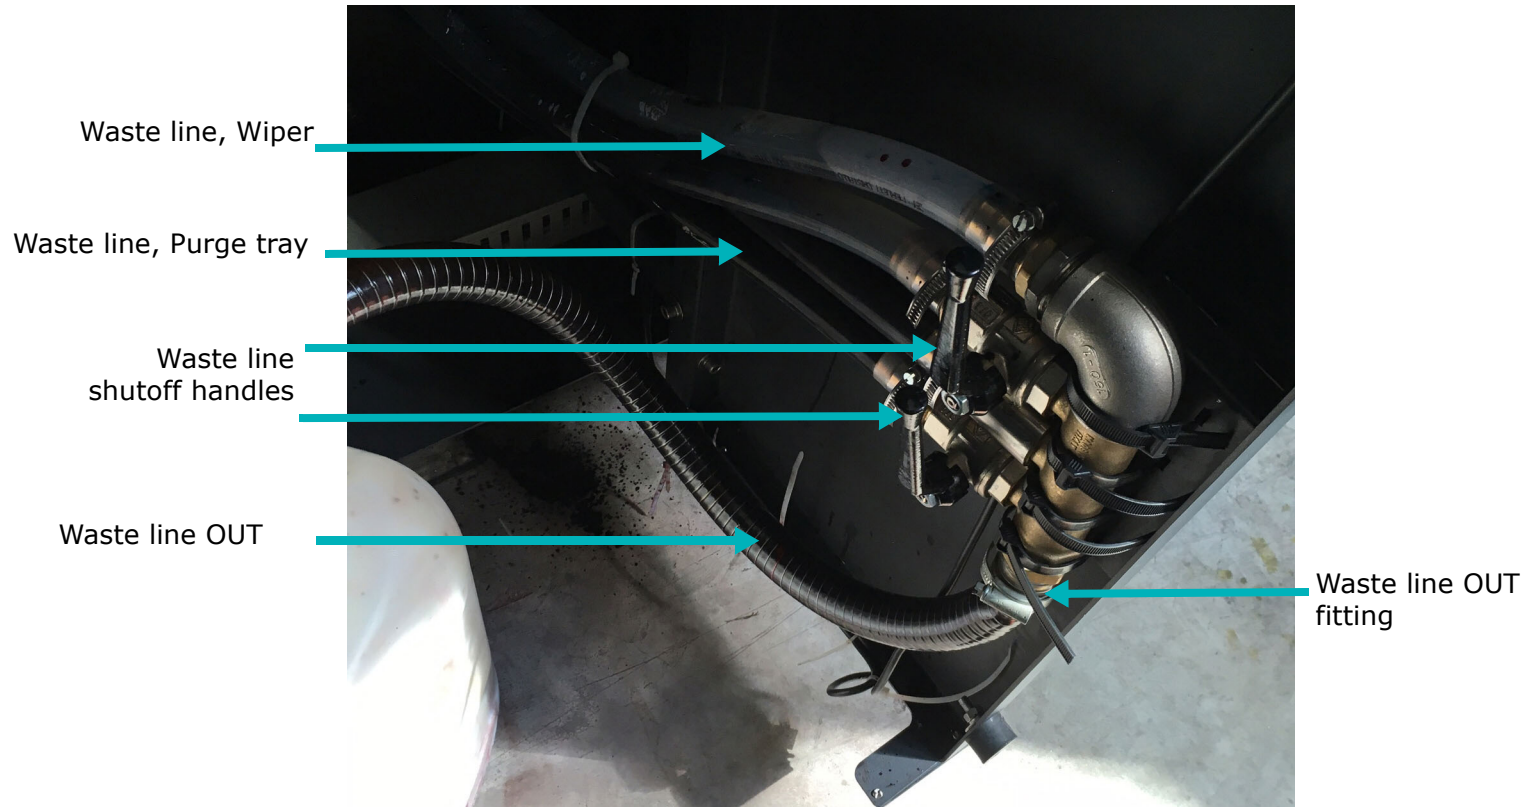

Figure 1-22: Main Waste
1. Locate the waste line OUT fitting, Figure 1-22.